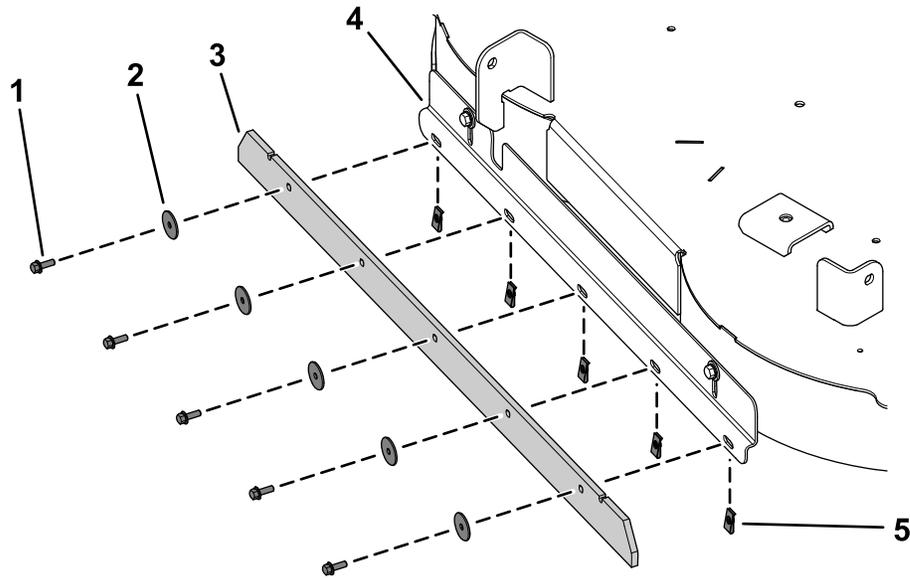

Figure 9
1. Install the 5 speed nuts onto the striping bracket (Figure 9).
2. Secure the wiper to striping bracket and speed nuts using 5 hex-head screws (1/4 x 3/4 inch) and 5 washers (Figure 9).